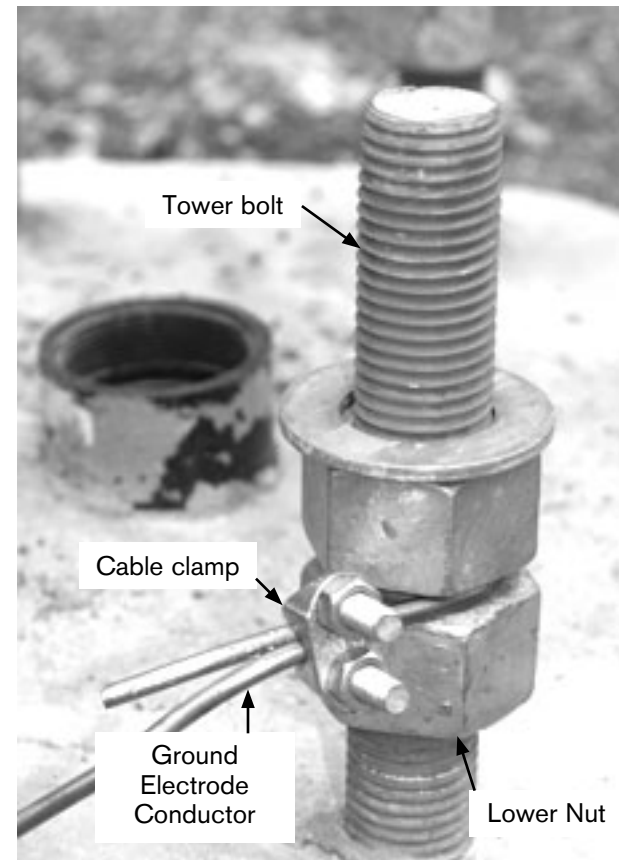

Fig. 3 Tower foundation bolt.
- c) Take one end of the grounding conductor and loop it once around the tower bolt containing the extra nut, between the upper and lower nut. Generously apply joint compound to the grounding conductor and cable clamp in the area of attachment. Secure the conductor with a cable clamp around the loop so that it just clears the tower nuts and keeps the loop snug around the tower bolt (see fig. 3). The cable clamp is required so that the ground wire does not slip out from between the nuts when the lower nut is tightened.
- d) Ensure that surfaces of the lower and upper nuts facing each other are free of dirt and have very clean surfaces. If necessary, wash and clean these surfaces. This is essential for a good electrical connection between the ground conductor and the tower. Tighten the lower nut towards the upper nut applying sufficient torque (50 lb-ft or 68 N-m minimum) to securely clamp the grounding wire (see fig. 3).